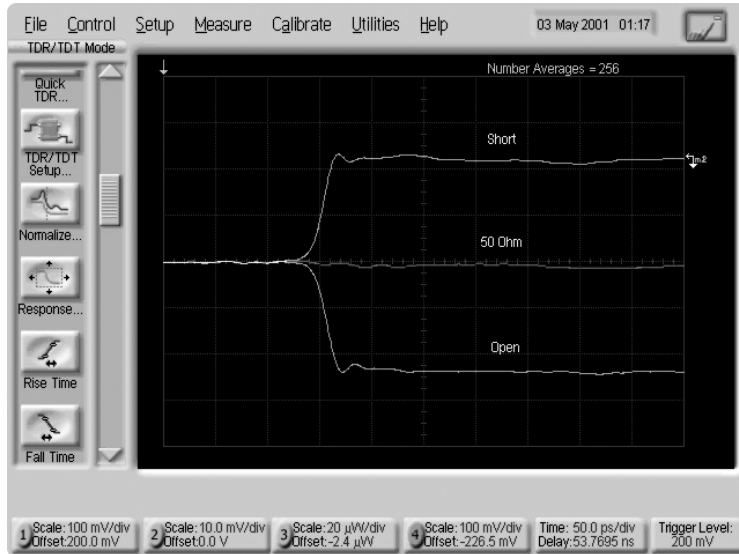

Figure 8. Multiple exposure showing short circuit, 50 Ω , and open circuit terminations.
7. Now attach a 50 Ω termination to the TDR reference port and watch what happens to the waveform. Next remove the termination and attach a short circuit termination to the reference port. Figure 8, illustrates how all three of the waveforms would appear if they were displayed simultaneously. This was constructed by saving each of the 50 Ω and open waveforms independently onto the display. The